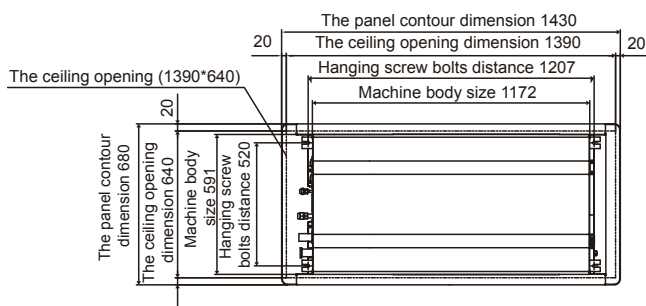

Figure 3.5
1. Drill 1390 mm x 640 mm holes into the ceiling based on the layout of the installation board (accessory 4). See Figure 3.5.